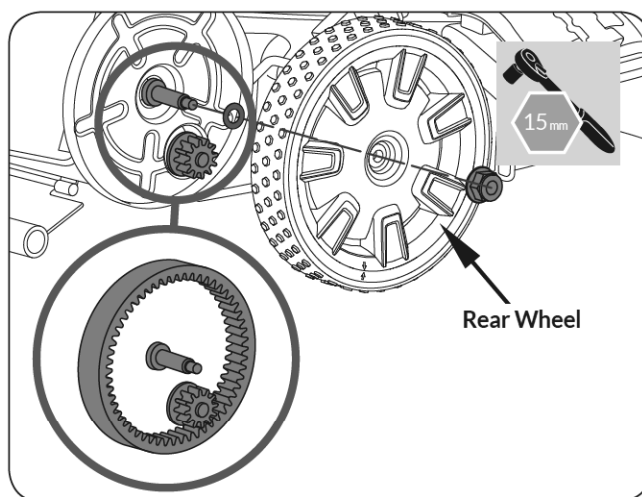

Figure 31
4. Assemble the new wheel with wheel nut and washer. (See **Figure 31**)